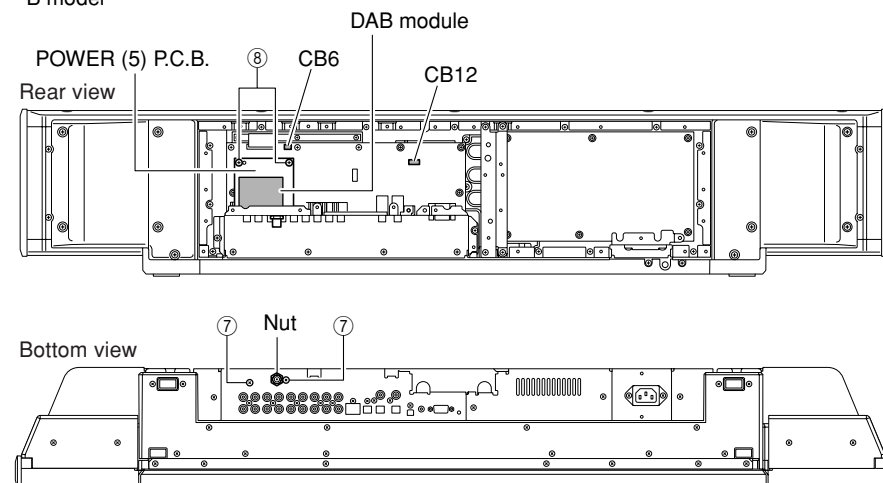

Fig. 4
4. Removal of POWER (5) P.C.B. (DAB tuner, B model)
- Remove 2 screws (7). (Fig. 4)
- Remove nut. (Fig. 4)
- Remove 2 screws (8). (Fig. 4)
- Remove CB6 and CB12. (Fig. 4)
- Remove POWER (5) P.C.B. together with DAB module. (Fig. 4)